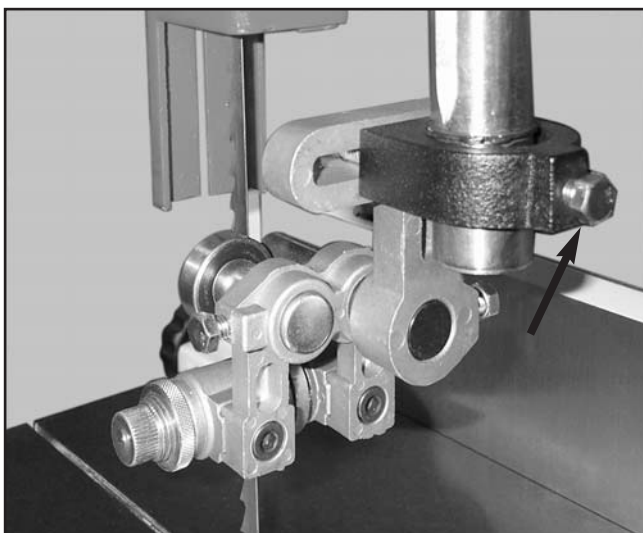

Figure 25. Loosen this bolt to remove assembly.
3. Remove the upper guide assembly from the support bar by loosening the hex bolt shown in **Figure 25**.